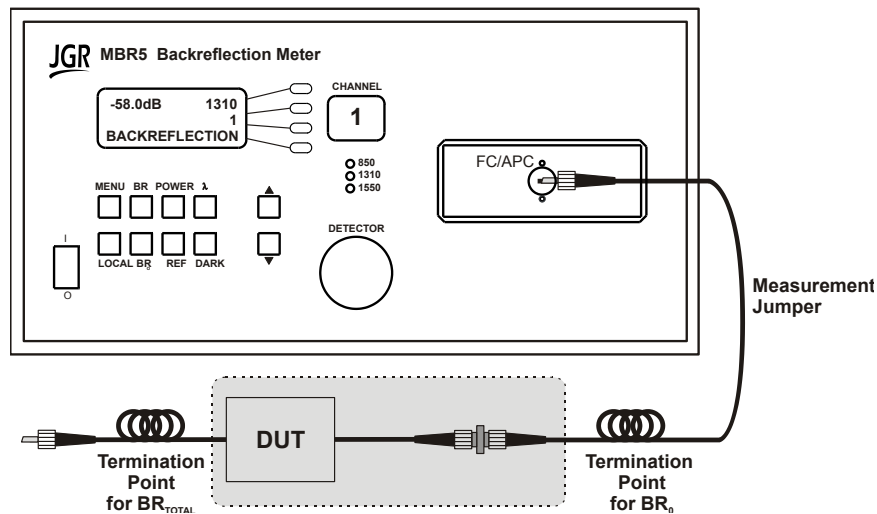

Figure 7: Backreflection measurement area
4. The meter displays the backreflection that is caused by the fiber, all connections, and the DUT that lies between the two termination points (that is the termination point for BR0 and the current termination point. This area is shown within the dashed line in Figure 7.